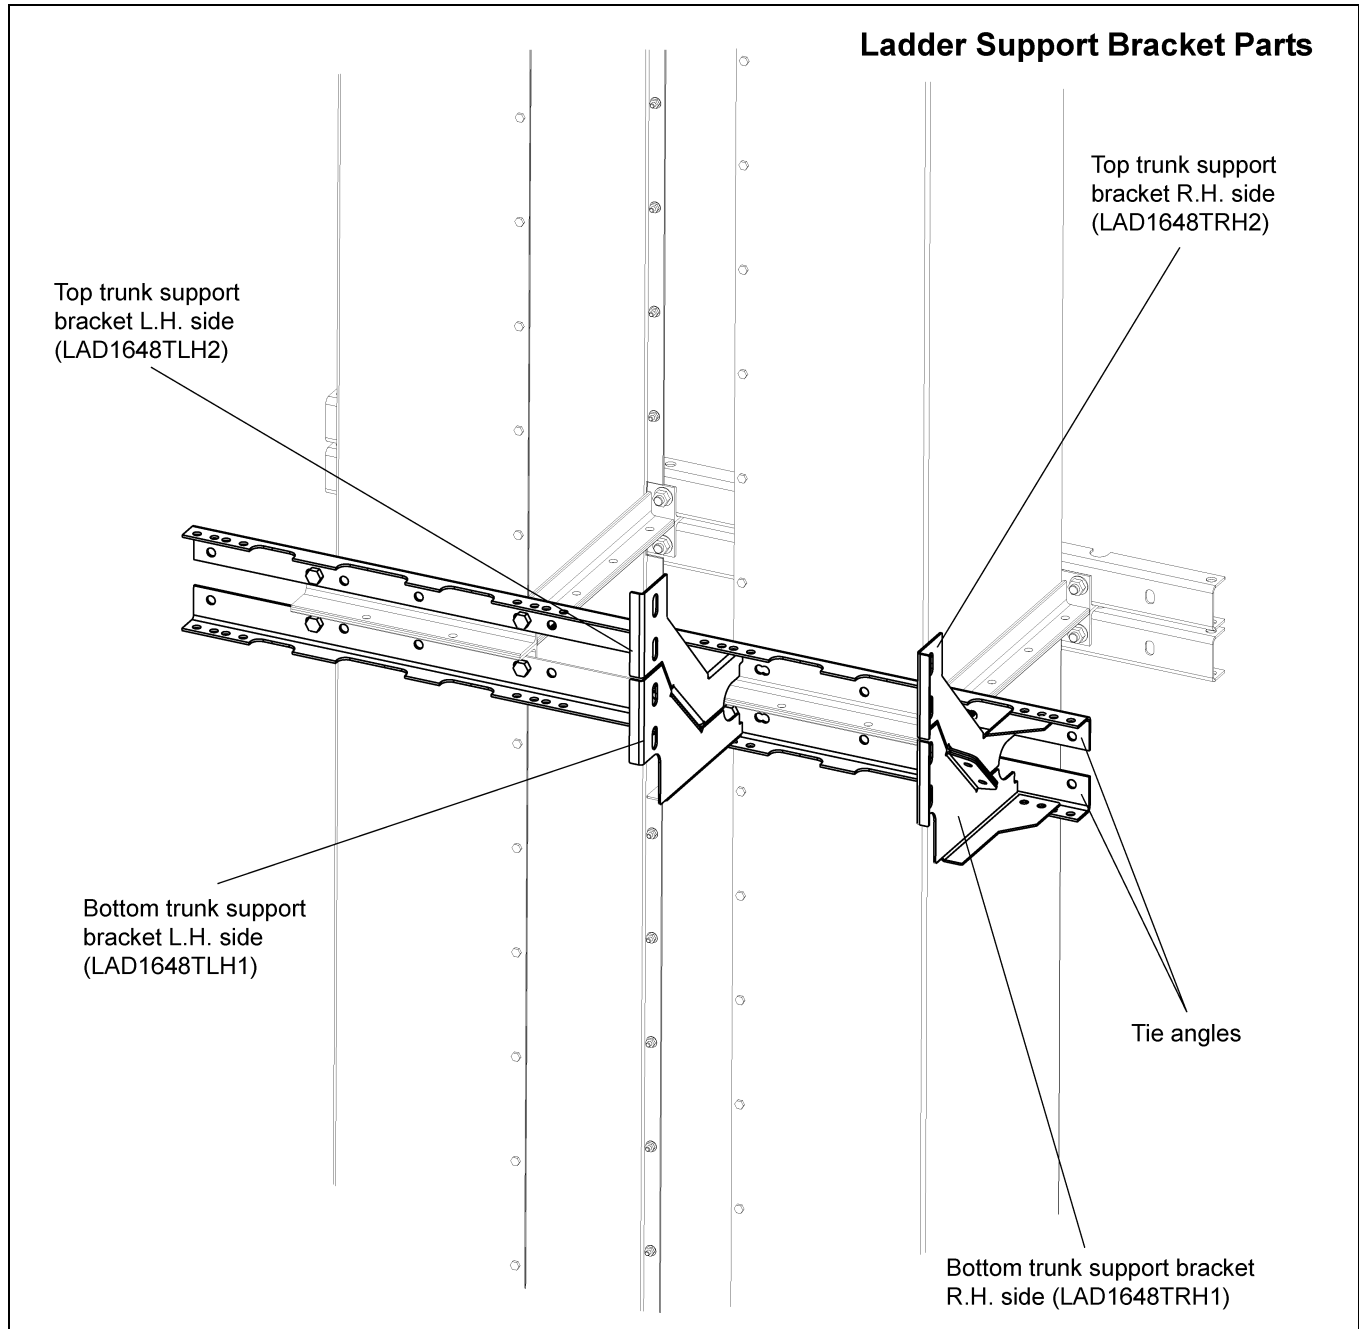

Figure 6L Ladder Support Bracket Parts
1. Attach ladder support brackets to tie angle using 3/8" x 1" hex bolts (S-7469). Use the holes shown in Figures 6L-6P on Pages 27-29 for each size elevator.